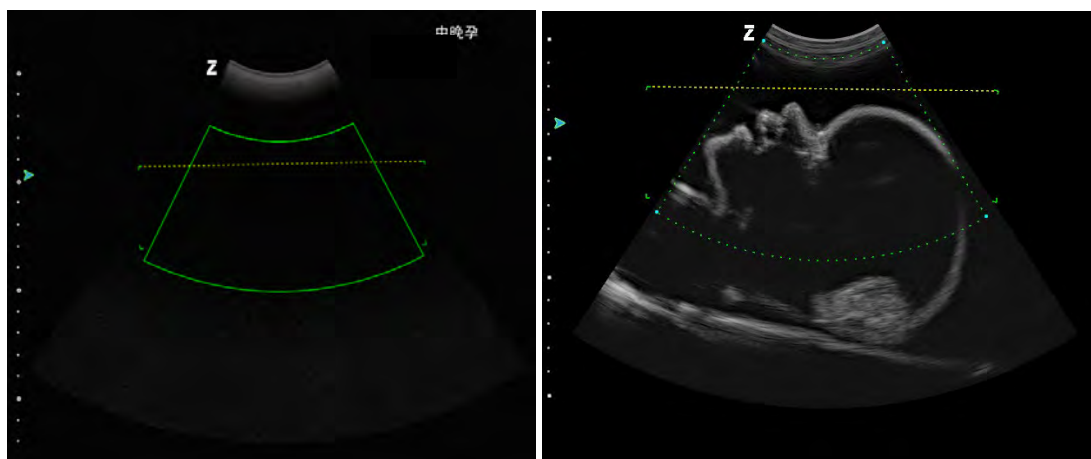

Figure 236: 4D ROI
Click on **Update** to toggle between the ROI field status. If the ROI box is surrounded by a solid line, it can be moved with the trackball, as shown in Figure 236 on the left. If the ROI field is surrounded by a dashed line its size can be adjusted according to Figure 236 on the right.
*NOTE: When the examination area is scanned on the image, please note that the imaging area is located within the range, as shown in Figure 236 on the right. There are four corners on both sides of the horizontal line and the far side of the sector. The rectangular surface enclosed by the four corners is the Layer field area of the volume image.*